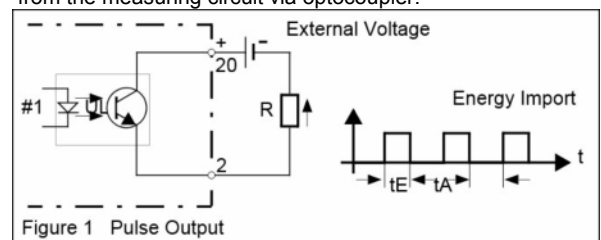

Figure 1 Pulse Output
- The electric meters are equipped with a pulse output as standard equipment, see figure 1. The pulse output is electrically isolated from the measuring circuit via optocoupler.